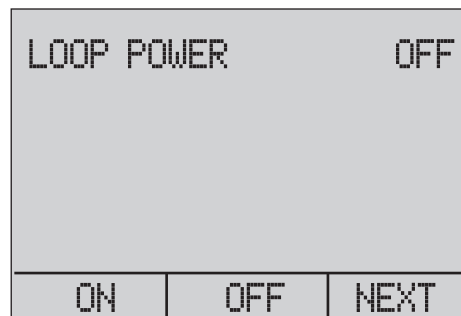

Figure 30. Loop Power Screen
4. "LOOP POWER" can be toggled on or off. Select "NEXT" when done. See Figure 30.